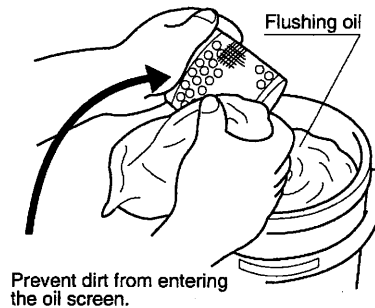

Fig. 41
- (2) Clean the oil screen when replacing the oil.
- (3) Cover so that no dirt enters the oil screen, remove the stain with soft cloth, and wash with clean flushing oil. (Fig. 41)